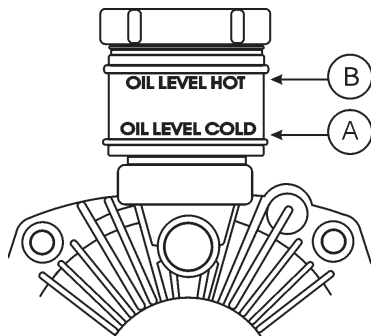

Figure 45. Transmission Reservoir
Check every 8 hours of operation. When the transmission is **cold** (A), check oil level against the level indicator (see Figure 45).